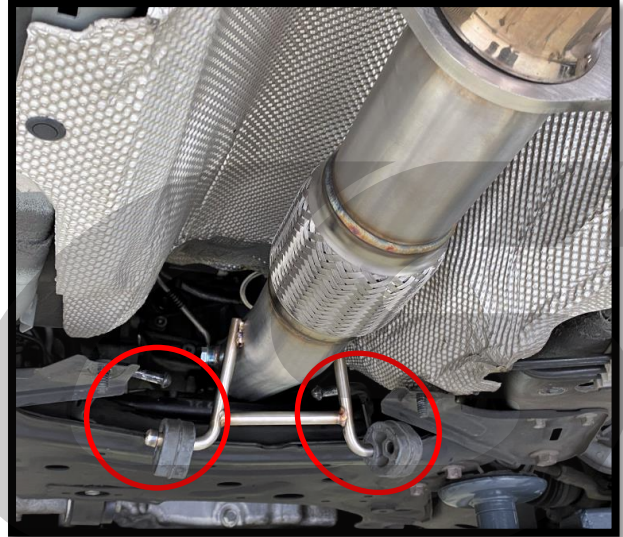

Figure 4c
- d) Lift the CS downpipe into position and install it on the exhaust hangers. Shown disconnected and circled in red in Figure 4c.